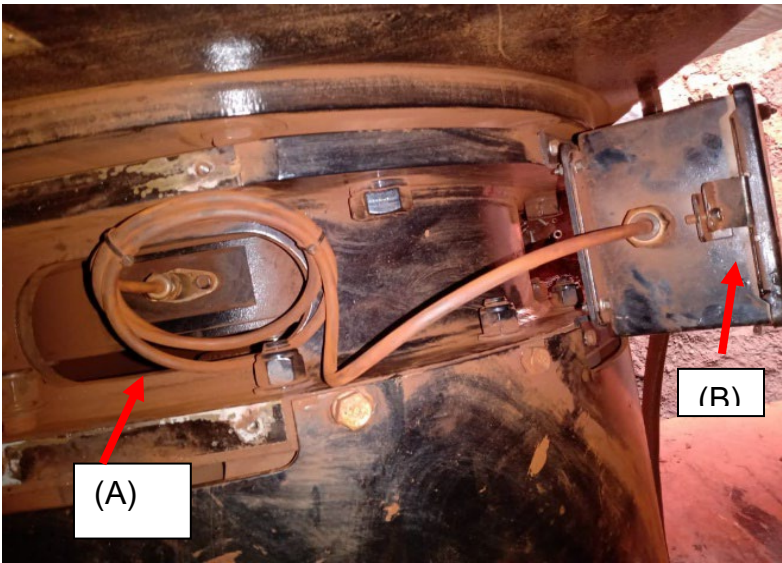

Figure 6: Point (A) and Point (B).
- 7- Reposition Box **PN 466-0445** in position (B) indicated in Figure 6.